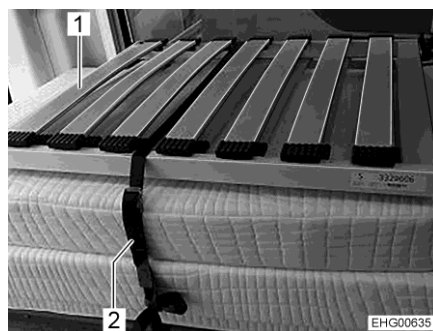

Fig. 32 Rear bed (transport position)
- Release the retaining belt (Fig. 32,2).
- Place the bed bases (Fig. 32,1) one behind the other above the central aisle (on the strips on the bottom cupboard).
- Stack the cushions and bed bases on the left-hand bottom cupboard as shown in Fig. 32.
- Secure the cushions and bed bases with the retaining belt (Fig. 32,2). In order to do this, pull the retaining belt through the eyelets provided and loop it around the cushions and bed bases.